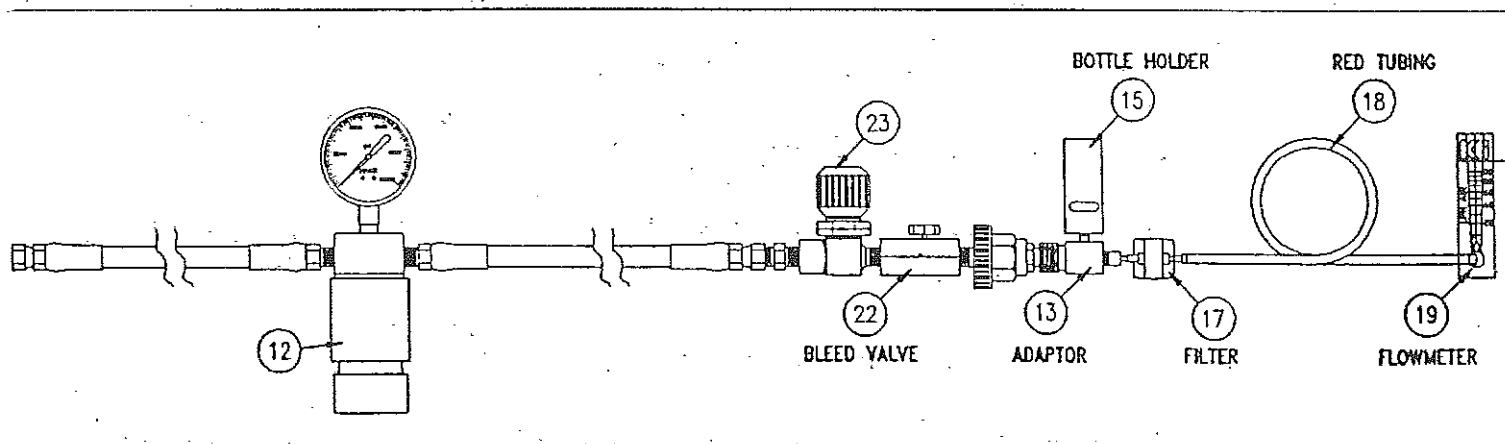

FIGURE 14-7 FLOW METER INSTALLATION
6. Gently twist on the filter (17) to the filter fitting (male lure fitting) located on the side of the adaptor (13) (do not over-tighten) (Figure 14-7). Use the red tubing (18) with the barbed fitting attached to connect the filter to the flowmeter (19).
8. Open the adaptor device valve (23) (Figure 14-7) slowly to normal operating pressure. Check the flowmeter reading which must be between 20 and 100 liters per minute (LPM). Begin timing test.
9. After 15 minutes close valve (23) (Figure 14-7) and immediately remove the source bottle (20) from the bottle holder (15). Place a protective netting on bottles.
1. Bleed pressure from the sampling device using the bleed valve (22) shown in Figure 14-7..